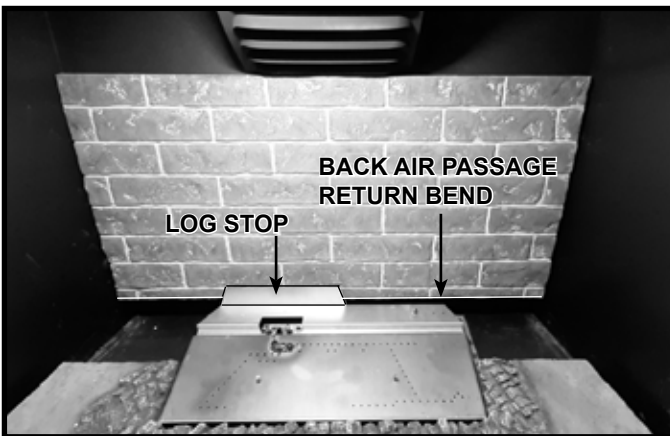

Figure 4 Back Refractory Panel Installed
4. Locate the back refractory panel and turn it so the grout lines will align with the grout lines on the side panels when installed. Install the back refractory panel as shown in Figure 4. Carefully place it on the back air passage return bend behind the log stop.